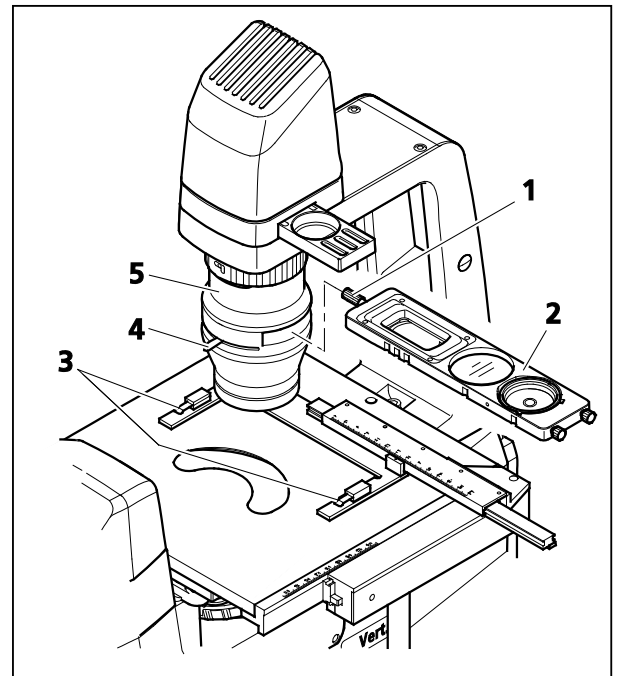

Fig. 4-5 Setting VAREL Contrast
- Open the aperture diaphragm (Fig. 4-5/4) on the condenser (Fig. 4-5/5) completely.
- Using a fitting mounting frame, insert the specimen into the retaining clips (Fig. 4-5/3) of the object guide.
- Move the VAREL position of the Ph/PlasDIC, H, VAR slider (Fig. 4-5/2) into the light path until the notch for the currently selected specimen magnification has been found. There are three different notches for VAREL.
- The contrast desired can be adjusted via the setscrew (Fig. 4-5/1).